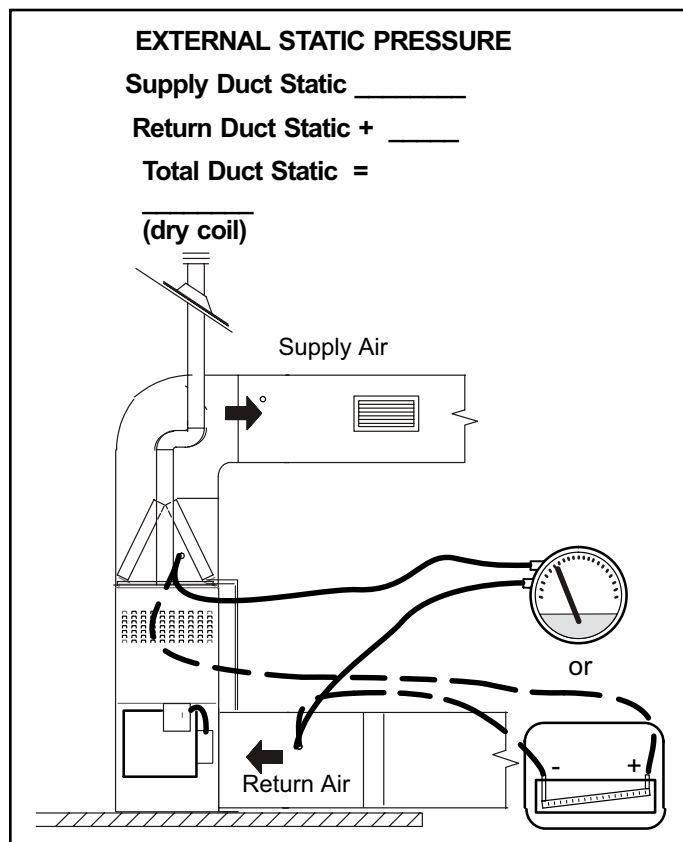

Figure 20. Static Pressure Test
1. Tap locations shown in Figure 20.